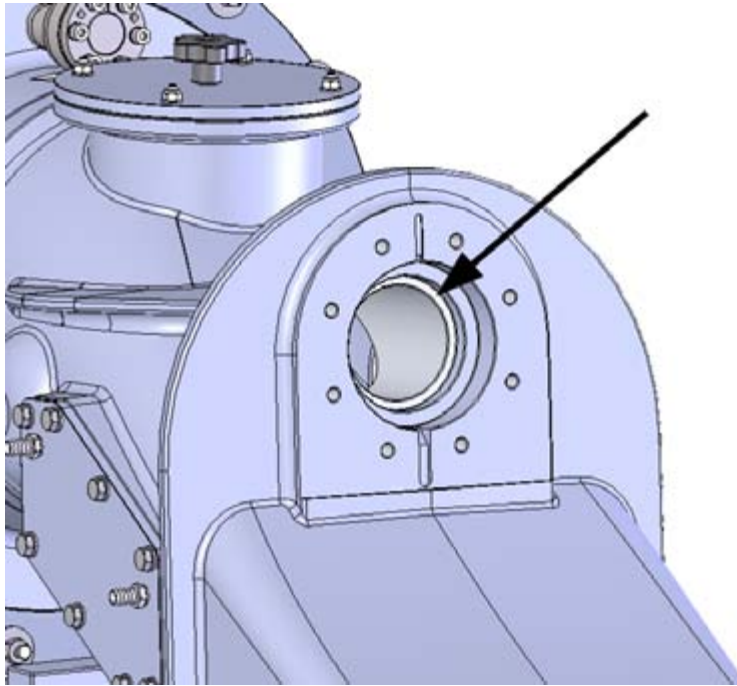

Figure 18. Shoulder
2. Ensure the seal is tight by spreading sealing compound (such as Sikaflex 221) on to the innermost shoulder (figure 18).